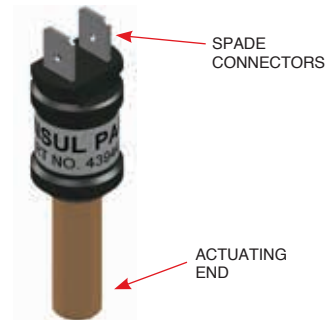

FIGURE 2-20
- Integral spade connectors easily field-install into the Release Circuit Drop Cable. See Figure 2-20.
Provides electrical activation of the fire suppression system. See Figure 2-20 and 2-21.